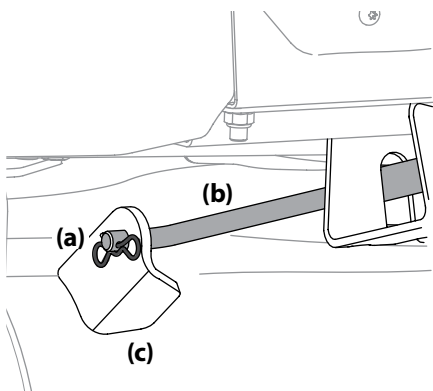

Figure 4-11
6. Pull the cotter pin (a) out of the front deck lift rod (b) securing it to the deck. See Figure 4-11. Slide the deck lift rod out of the front hanger bracket (c).
6. Reinstall the front deck lift rod and secure in place with the cotter pin. Refer to Figure 4-11.